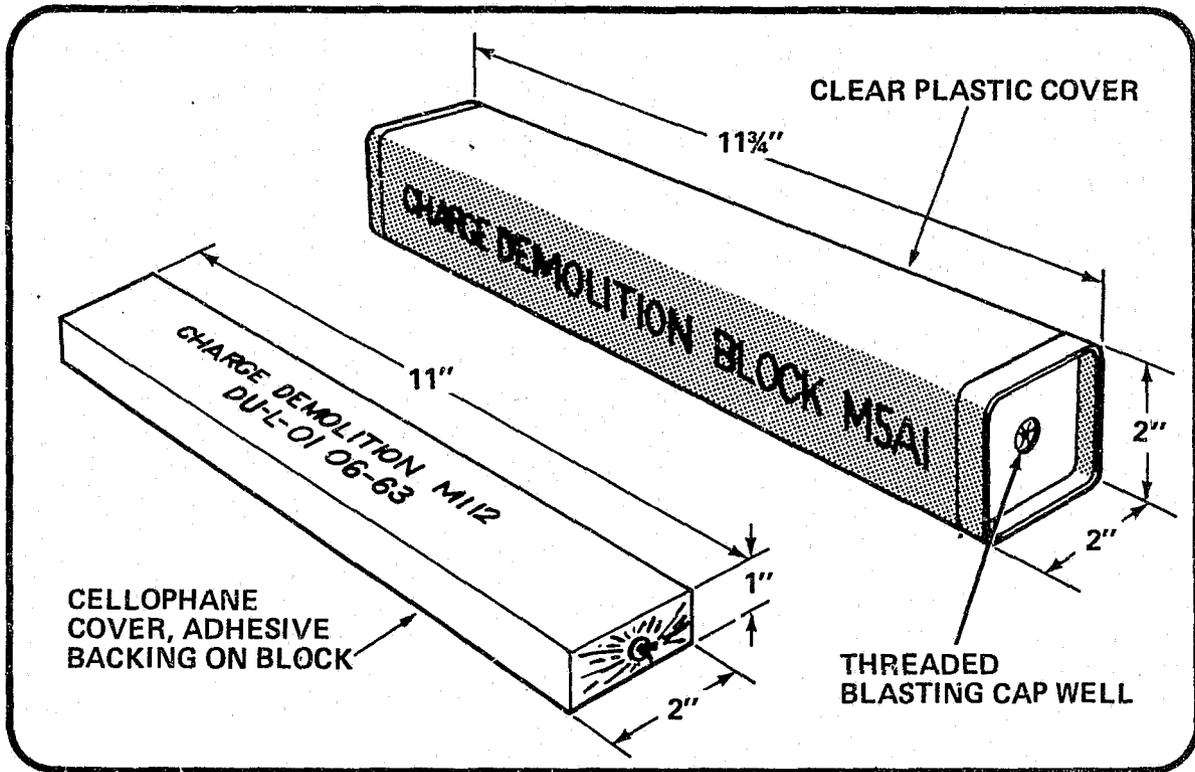

Figure 45
- **Composition C-4.** Composition C-4 is an improved version of the C-3 explosive. It contains 90 percent RDX and has a greater shattering effect than the earlier C-3. C-4 is white to light tan in color, has no odor, and detonates at about 24,000 f.p.s. The C-4 M5A1 demolition block is wrapped in a clear plastic wrapper and measures 11¾ by 2 by 2 inches. C-4 is also supplied in a M112 demolition charge with an adhesive back. The M5A1 and M112 are illustrated in figure 45.